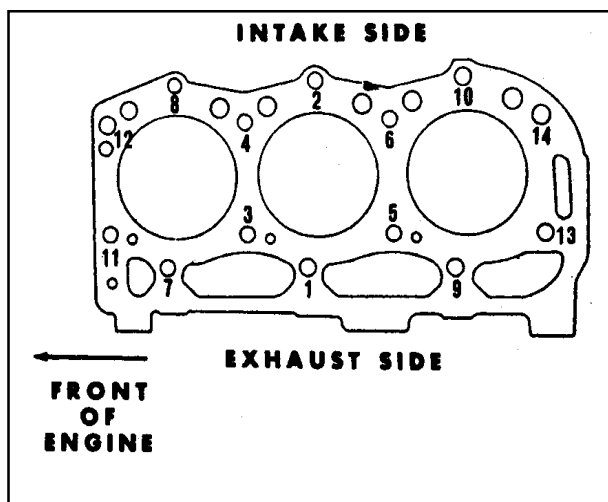

Figure 12
5. Tighten the cylinder head bolts in the proper sequence as shown in Figure 12.